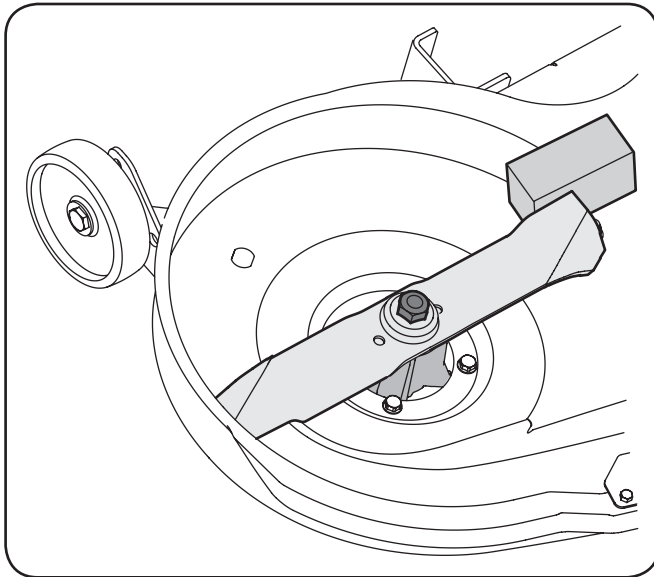

Figure 7-4
2. Place a block of wood between the center deck housing baffle and the cutting blade to act as a stabilizer. See Fig. 7-4.
3. Remove the hex flange nut that secures the blade to the spindle assembly. See Fig. 7-4.